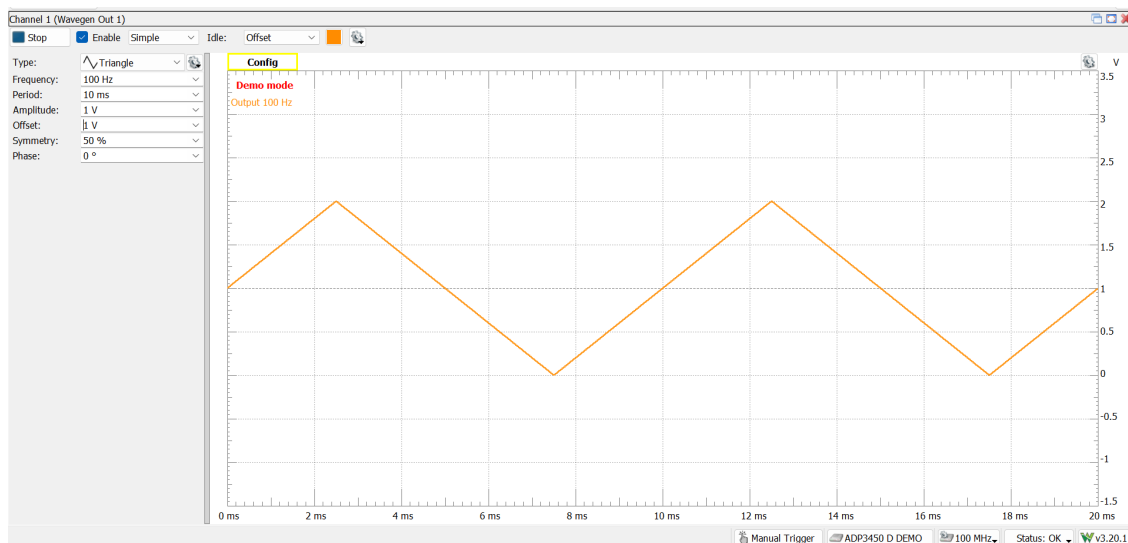
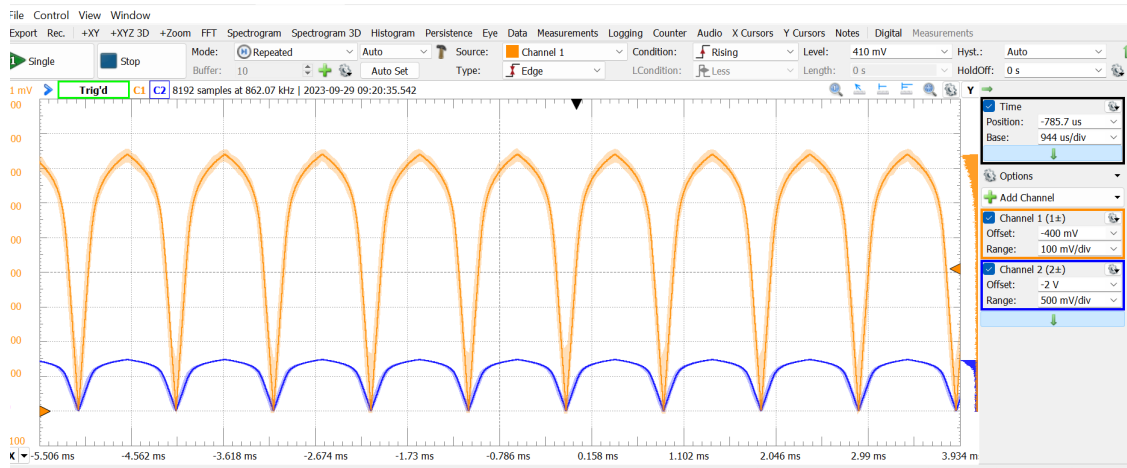

Figure 5: Triangle wave input to circuit
Figure 6: Initial (Incorrect) voltage over resistor (orange) vs. voltage over diode (blue) vs. time scope graph
- I have connected a BNC cable with the red probe powering the circuit (circuit) at the top of the resistor (R1) and the black probe below the diode, grounding the circuit. The cable is connected to the AD2's Wavegen 1 output, which outputs a triangular voltage that goes from 0 V to 2 V (1 V amplitude and 1 V offset) at a frequency of 50 Hz. This output is shown in Figure 5 (albeit the period should be 20 ms instead of 10 ms).
- I first observed the graph in Figure 6, with CH1 (orange) measuring what I thought was the voltage drop across the resistor and CH2 (blue) measured the voltage drop over the 1N4148 diode. The voltage drop over the resistor appeared significantly larger than the voltage drop over the diode, and the increasing and decreasing behavior of both followed the same pattern, which initially made sense to me. However, described in further detail in TS1, I realized this should not be the case and fixed my readings by checking the way I arranged the probes reading the voltages at different points of the circuit.
TS1: I realized I was reading the wrong voltages in Figure 5 after looking at the scales on the side, which showed that CH1 and CH2 were reading identical voltages when they were supposed to read the voltage over resistor and diode. I tried increasing the input voltage to see if that would make any noticeable difference, but the voltage input was capped at 5 V (hence the cap in Figure 6). In Figure 6, when I setup the voltage over resistor vs voltage over diode X-Y graph, I noticed the shape was off; the voltage over the diode rose too steadily in comparison with the voltage over resistor (the difference was more obvious when I got the correct X-Y graph in Figure 8), which of course, was because X and Y were the same.
Even though it appeared the voltage drop over the diode was much lower than the voltage drop over the resistor, which should be true, once I adjusted the two readings to the same scale, they were identical. With the TA’s help I checked my breakout board’s connections to the breadboard and realized that I had the probes for reading the voltage over resistor connected the wrong way, with Scope 1+’s positive probe connected to GND and Scope 1-’s positive probe connected to the top of the diode. The setup in Figure 6 actually depicts the probes connected in this incorrect fashion.